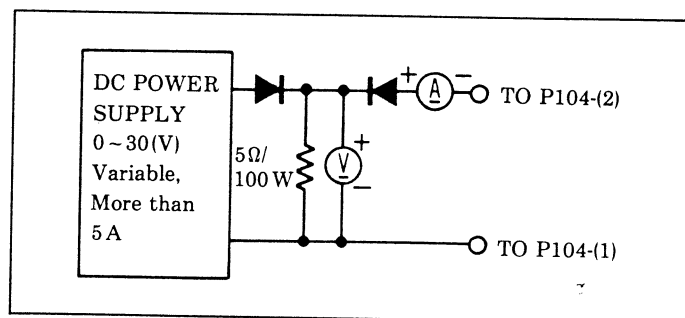

Fig. 17
- Connect the DC POWER SUPPLY to P104-(1) and P104-(2) as shown in Fig. 17.